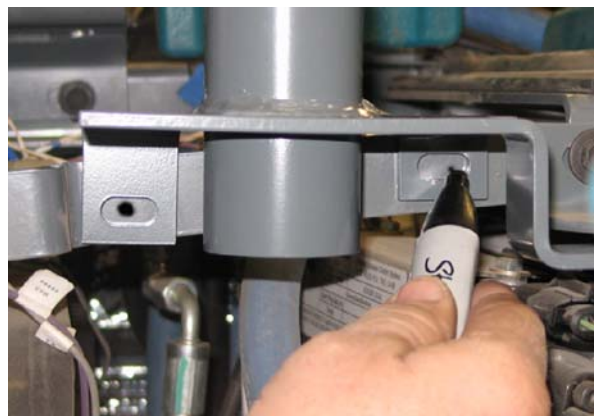

**FIG. 10**
12. Cover the alternator with a shop cloth or rag to prevent shavings from falling into the alternators when holes are drilled in the following steps. Refer to Fig. 10.